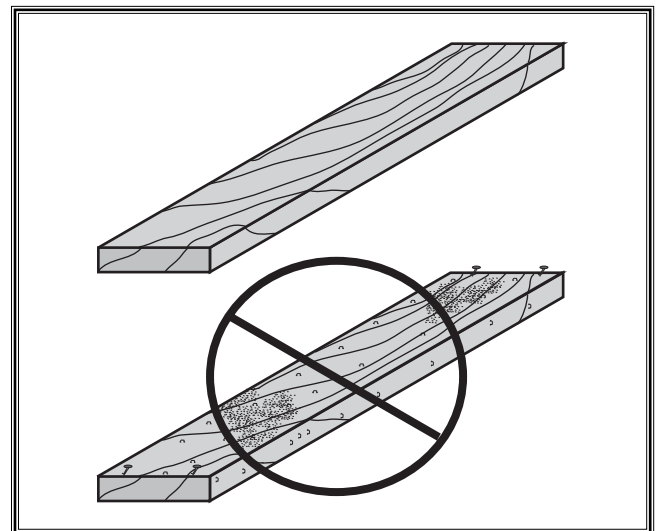

Figure 33. Only plane clean stock.
- Only use clean stock. See **Figure 33**. Scrape off all glue from joined boards before planing. Remove all dirt, nails, staples, imbedded gravel, etc. from any lumber you plan on using. A hidden nail in a workpiece will instantly damage the sharp edges of the knives. This will cause unsatisfactory results in future operations.